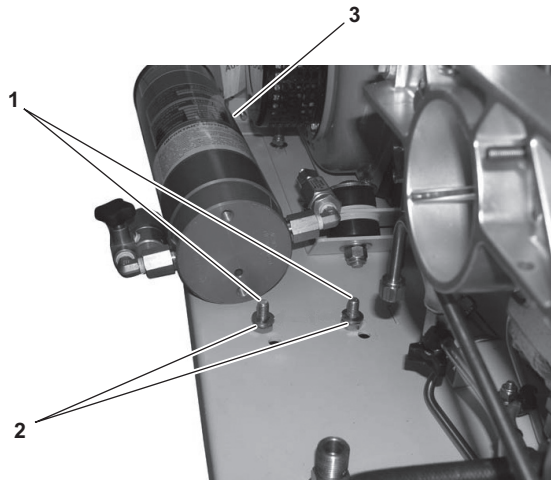

Figure 6-22. Bolts Underneath E-BAC/SS Base
- (6) Using a 11/16 inch socket on a drive ratchet, loosen and remove the two bolts (figure 6-22, item 1) and washers (figure 6-22, item 2) underneath the E-BAC/SS base that secure the P1 purification chamber (figure 6-22, item 3).